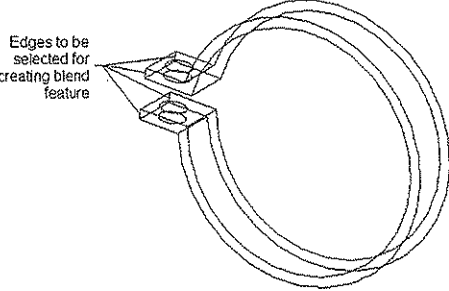

Figure 3-111 Edges to be selected for creating the blend feature
- 2. Press the CTRL key and select the four vertical edges of the model, refer to Figure 3-111.